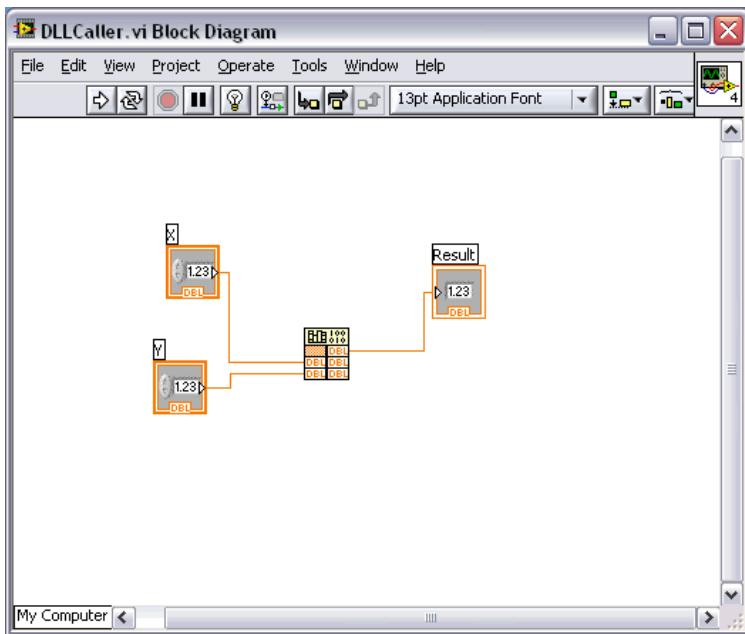

Figure 5. DllCaller.vi Block Diagram
14. Save the program as **DllCaller.vi**. When you finish, the block diagram should look like Figure 5.